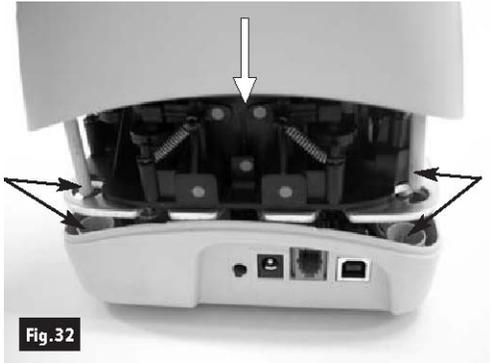

Fig.32
- 1 Insert the outer cover by aligning the two shafts with the holes in the bottom cover of the unit (Fig.32). Insert the two teeth located on each side of the outer cover in the bottom cover and lock it (Fig.33 and 34).